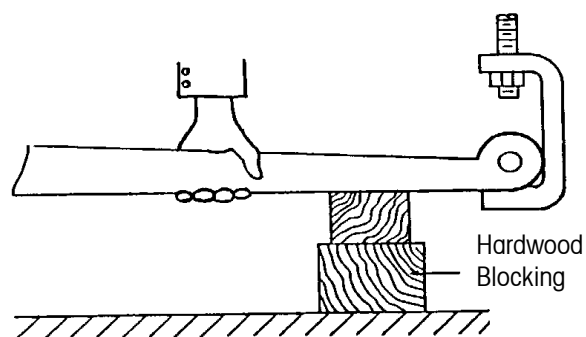

Figure 4-1: Blocking Smaller Scales
- For smaller scales (such as bench and portable scales), raise the tip or small end of the main lever by hand and place a block under the main lever near the nose iron. The block should support the main lever so that all load is off the steelyard rod, and it should keep the main lever from moving side to side (see Figure 4-1).